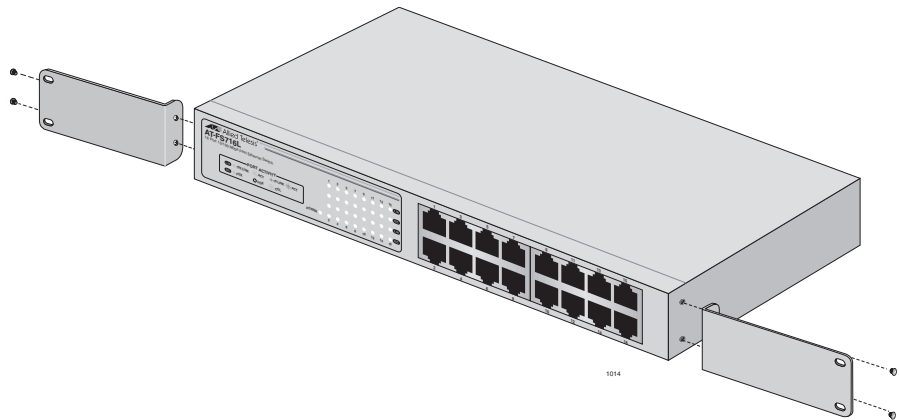

Figure 6. Attaching Brackets for Rackmounting
2. Attach the two mounting brackets (provided) to the sides of the switch using the bracketmounting screws (provided), as shown in Figure 6.